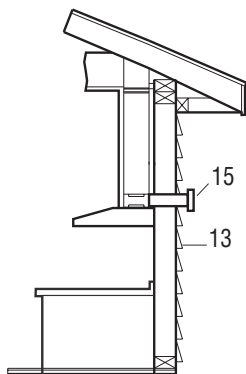
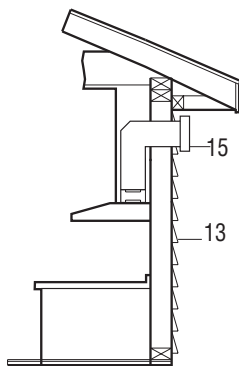
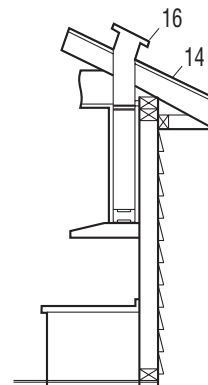

Fig. 5
Fig. 6
Fig. 7
- Your venting system must vent to the outdoors either horizontally through the back wall (13) or vertically through the roof (14) (refer to Fig 5/ Fig 6/ Fig 7).